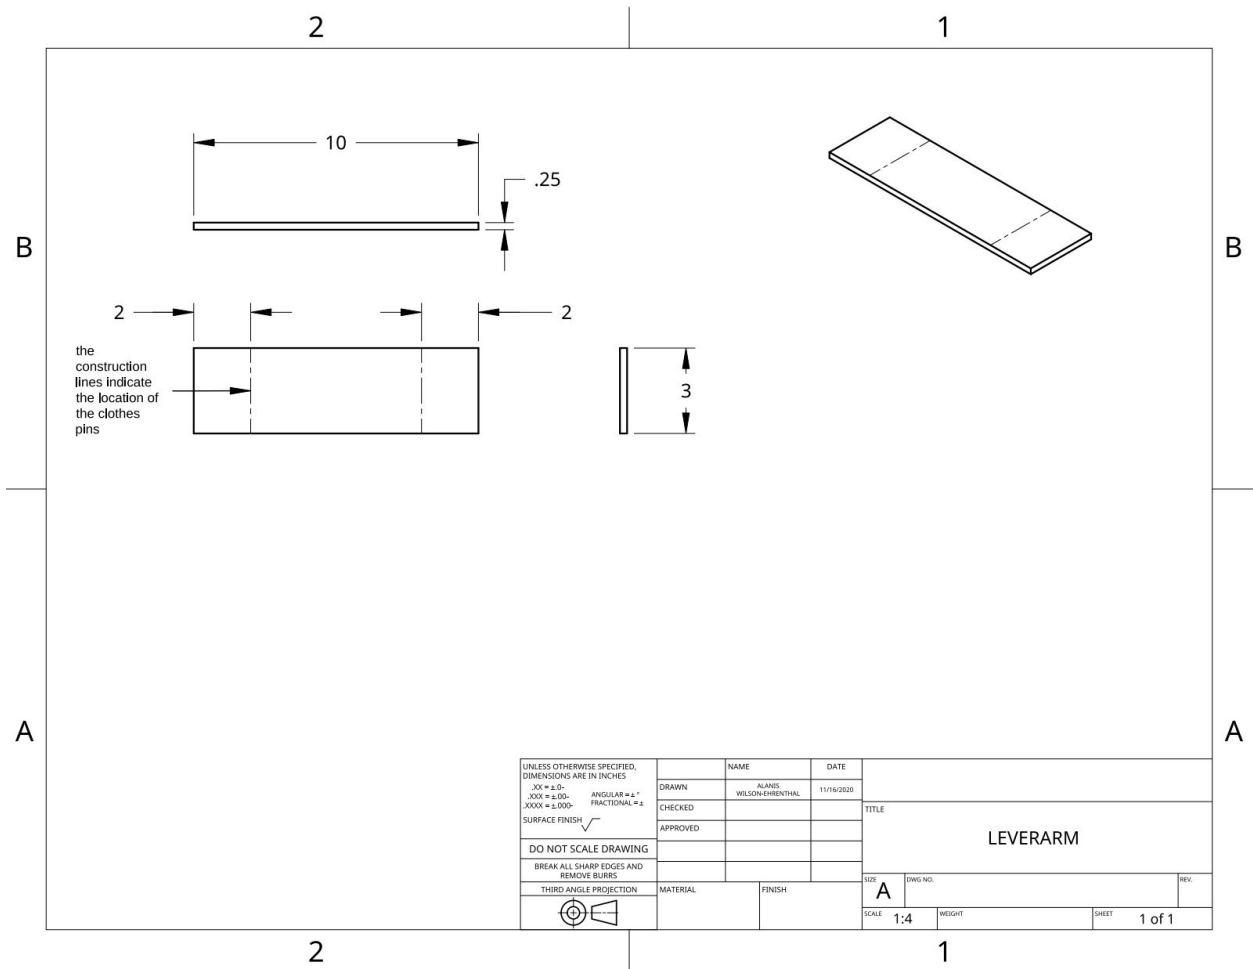

Figure 5
16. Laser cut acrylic with Lever Arm dimensions (Figure 5)**
17. Using the super glue, attach the halves of the uncut clothes pins to the acrylic (see Figure 5)